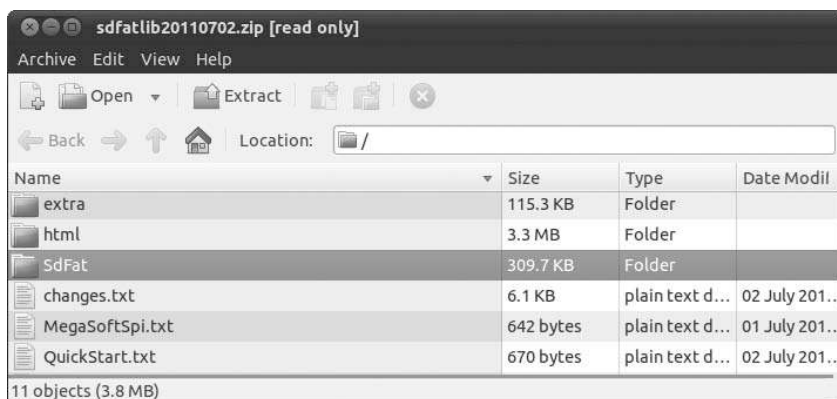
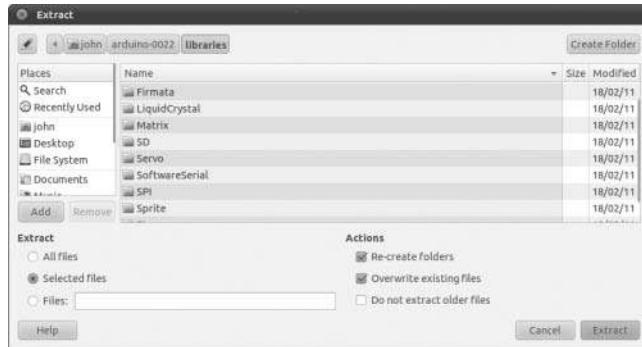

Figure 8-21: Downloaded library folder
Figure 8-22: Destination for library folder
1. Locate the downloaded file and double-click it. The Archive Manager window should appear with the *SdFat* folder, as shown in Figure 8-21.
2. Right-click the *SdFat* folder in the window shown in Figure 8-21, and then click **Extract** to extract it to your */libraries* folder (Figure 8-22).